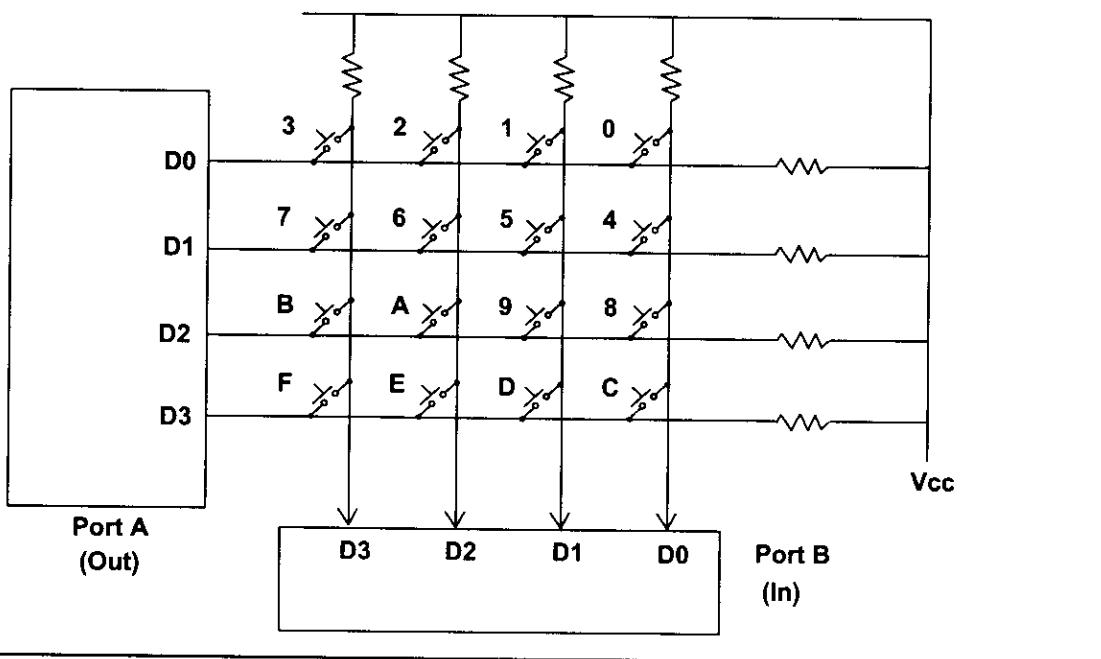

Figure 18-1. Matrix Keyboard Connection to Ports
Figure 18-1 shows a 4 x 4 matrix connected to two ports. The rows are connected to an output port and the columns are connected to an input port. If no key has been pressed, reading the input port will yield 1s for all columns since they are all connected to high (VCC). If all the rows are grounded and a key is pressed, one of the columns will have 0 since the key pressed provides the path to ground. It is the function of the microprocessor to scan the keyboard continuously to detect and identify the key pressed. How it is done is explained next.
From Figure 18-1, identify the row and column of the pressed key for each of the following.
From Figure 18-1 the row and column can be used to identify the key.
4. In Figure 18-1, if the row has $D_3 - D_0 = 1110$ and the columns are $D_3 - D_0 = 1110$, which key is pressed?